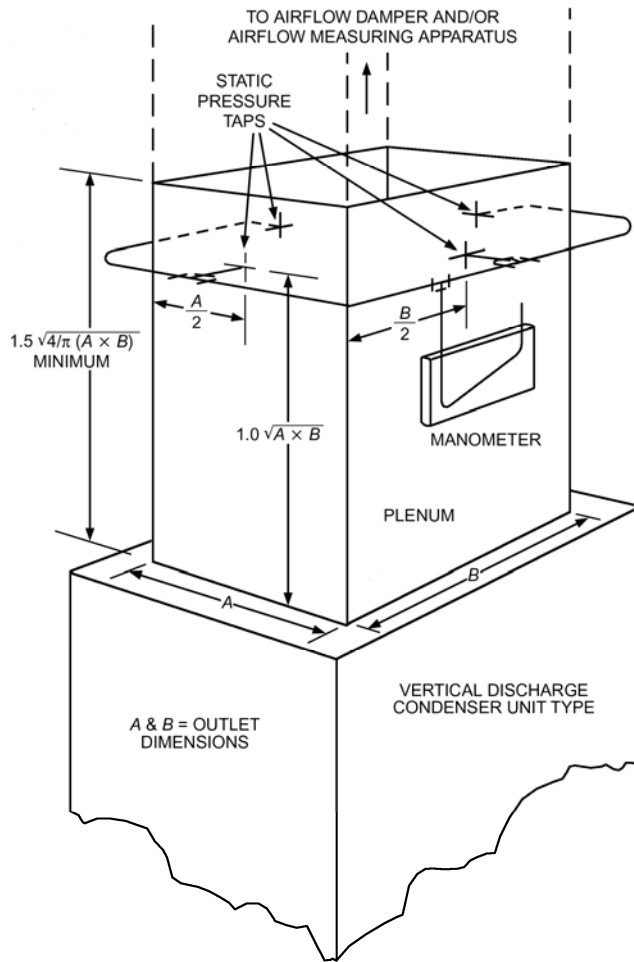

Figure 3 External static pressure measurement.
- 7** **Figure 3 External static pressure measurement.** Replace the current figure with the one shown below.